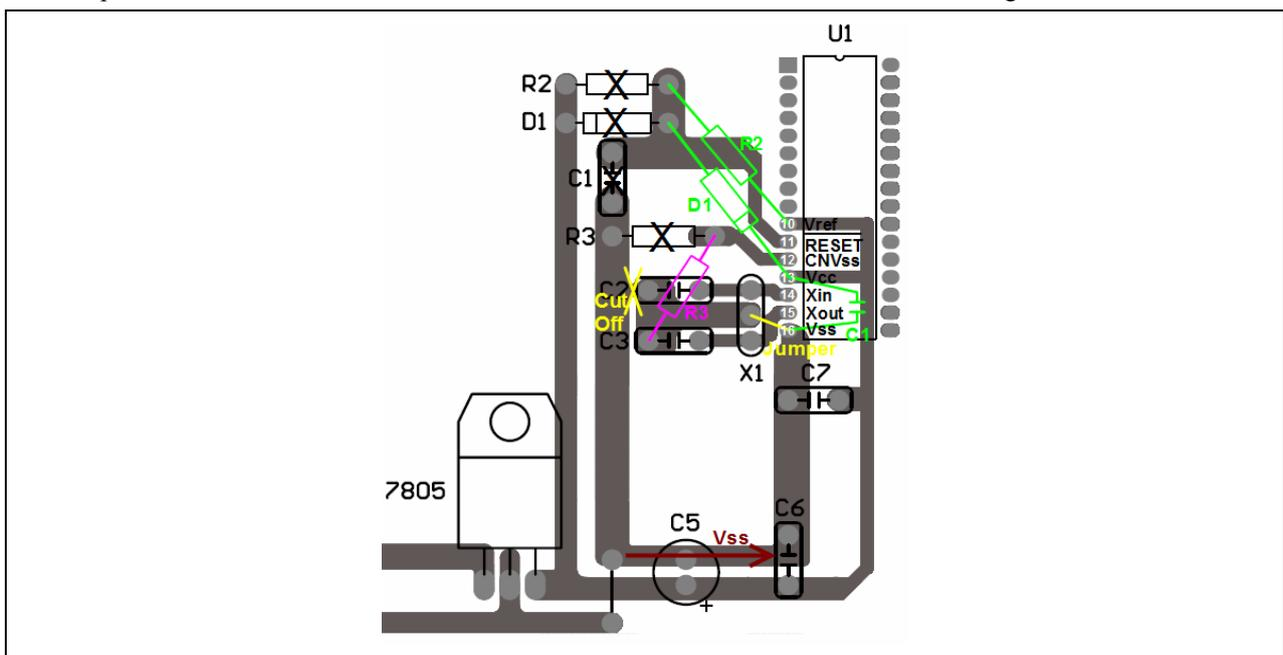

Figure 4 Improve the Non-recommended Board
- Oscillator circuit: Cut off the original wiring pattern which connects to the VSS and connect the oscillator to the MCU VSS with a jumper to shorten the VSS wiring pattern of the oscillator circuit. Refer to the modification in the yellow section in the Figure 4.
- Reset circuit: Remove the components of the reset circuit and weld those components to the back side of the board at the short distance. Refer to the modification in the green section in the Figure 4.
- CNVSS circuit: Remove the CNVSS resister and weld it to the back side of the board to shorten the distance of the VSS wiring. Refer to the modification in the pink section in the Figure 4.
- VSS wiring pattern: Connect the VSS wiring of the MCU, the oscillator, the reset circuit and the CNVSS pin to the same VSS branch. Refer to the modification in the brown section in the Figure 4.